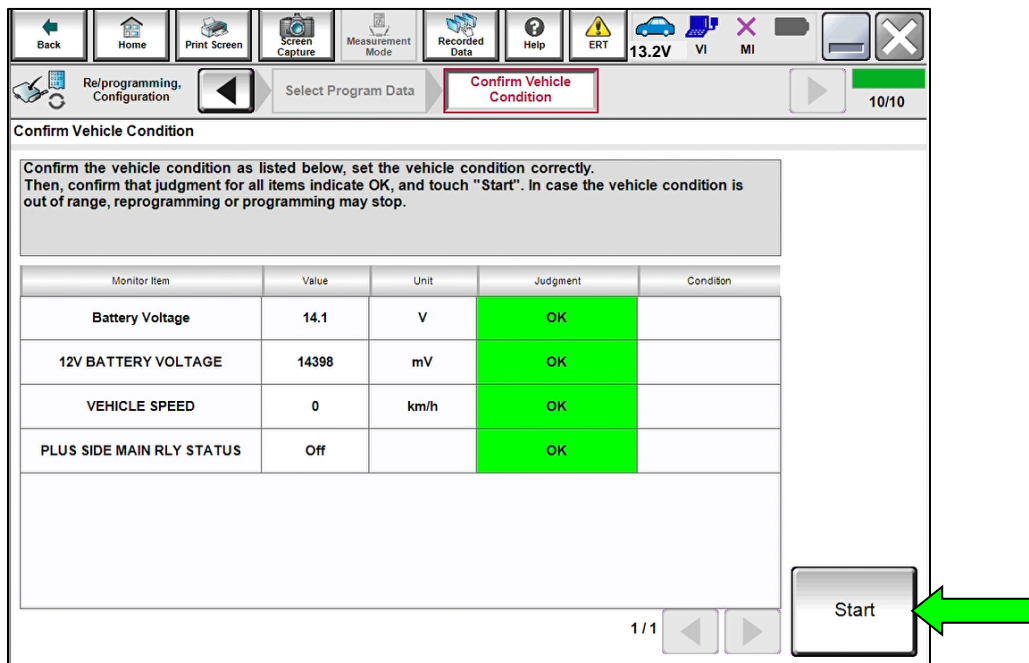

Figure 27
**HINT:** If any of the items shown in Figure 27 have a status of “NG”, verify the battery charger/maintainer is connected correctly and the vehicle is NOT in ready mode.